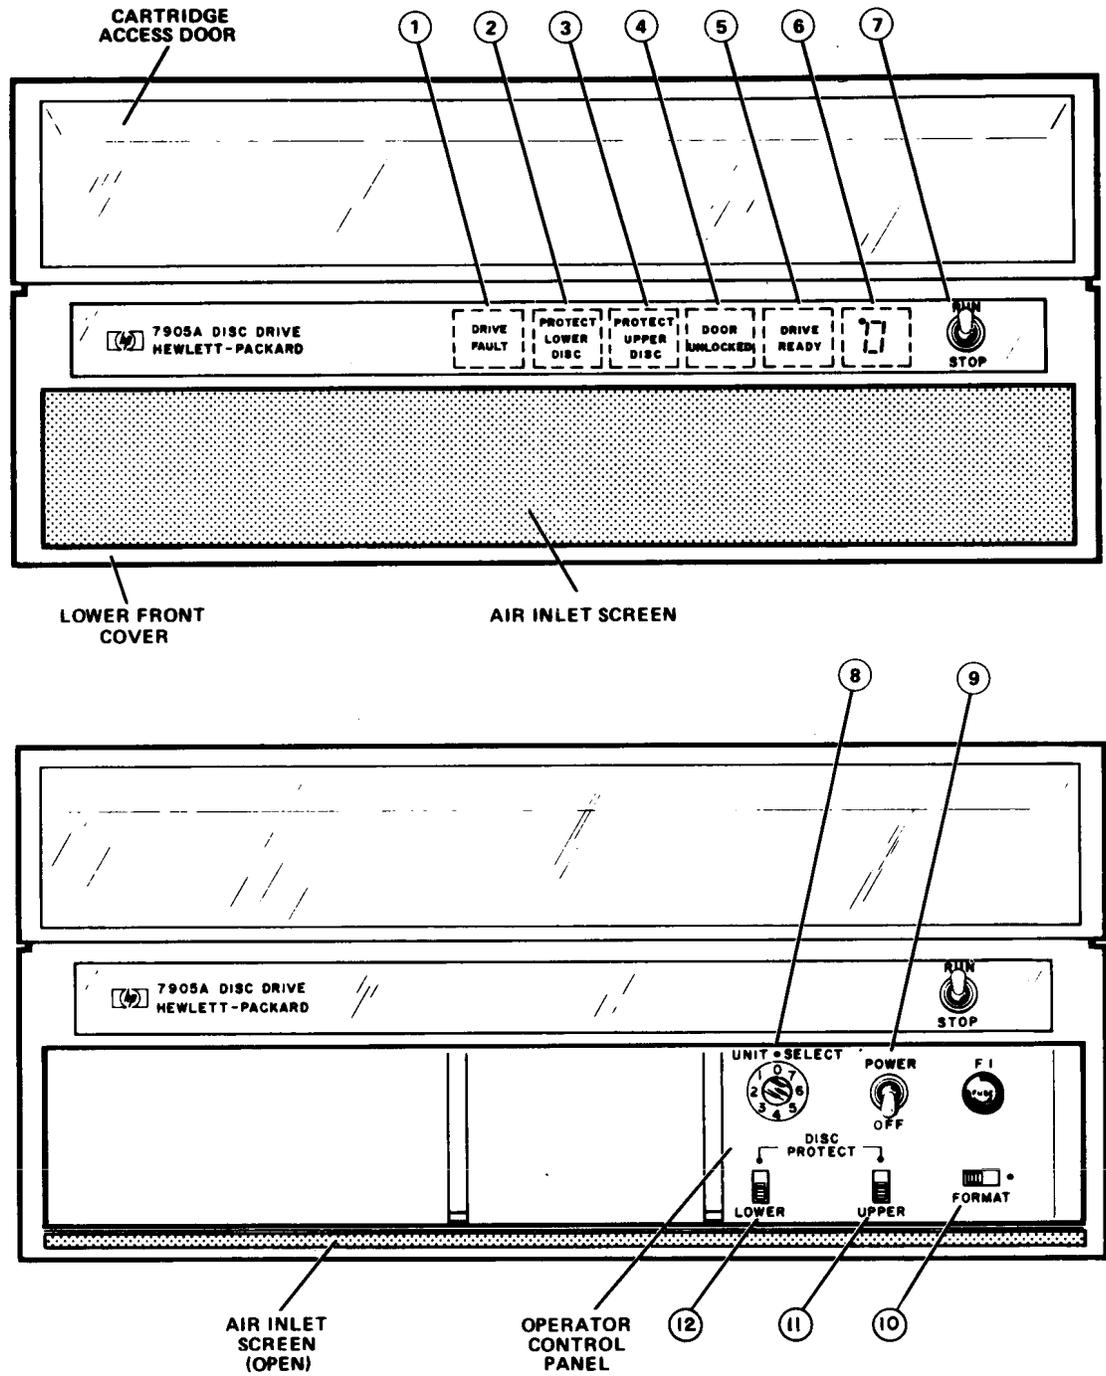

Fig. 5—HP Disc Drive
**2.28** Chart 5 contains the procedure for removing and inserting a cartridge in the disc drive. Refer to Fig. 5 and 6 when using Charts 4 and 5.